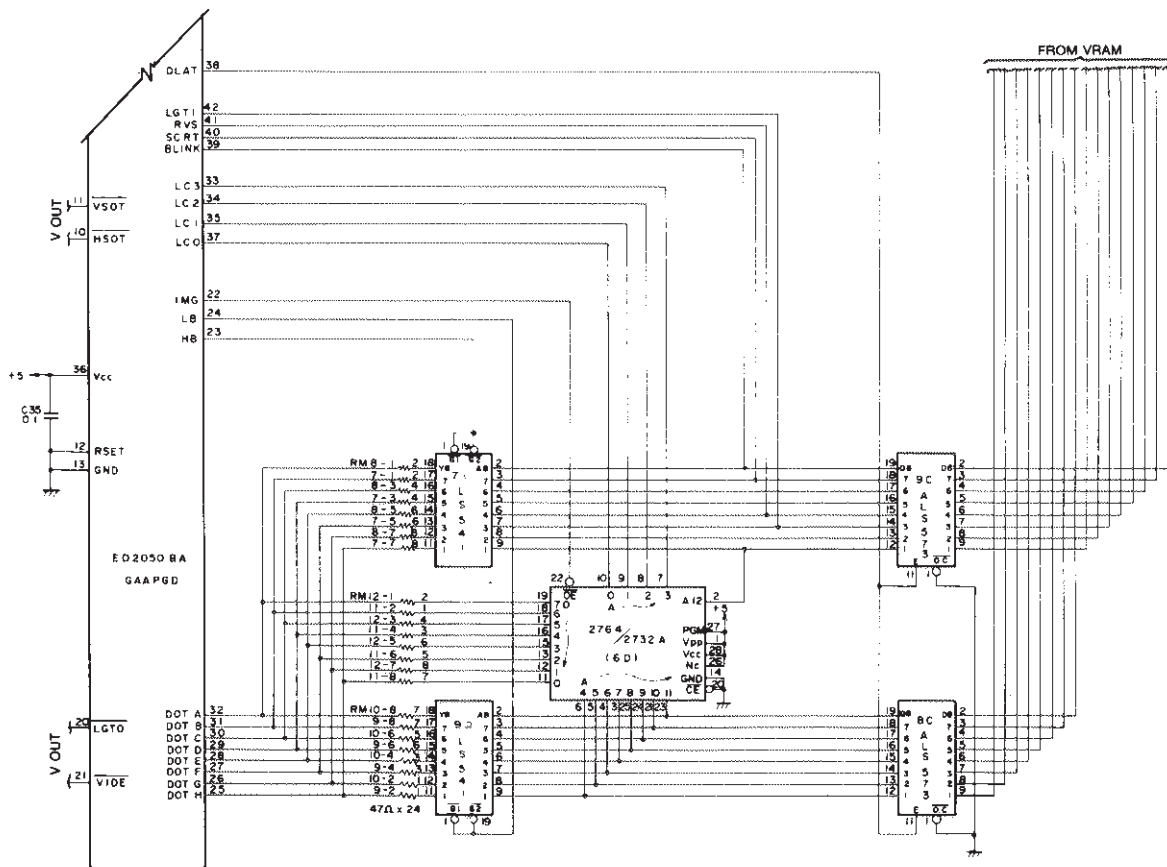

FIGURE 2-81. APX-IGGS CHARACTER GENERATOR CIRCUIT
2.4.6 Character Generator Circuit (Figure 2-81)